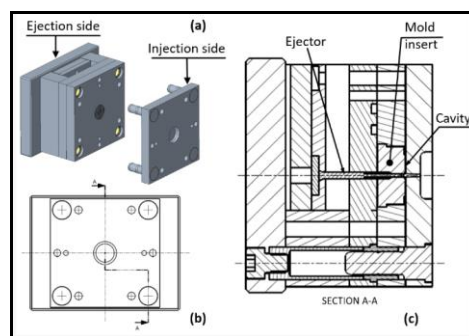

Figure 11.1. Injection moulding 1
- It has one starting winding in series with one capacitor and running winding since the capacitor remains in the circuit permanently. This motor is often referred to as permanent. Split capacitor runs motor and behaves practically like an unbalanced 2phase motor from Figure 11.1.